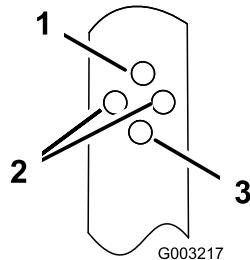

Figure 18
2. Insert the bolt through the hole in each of the handle brackets that sets the handle to the desired position (Figure 18).